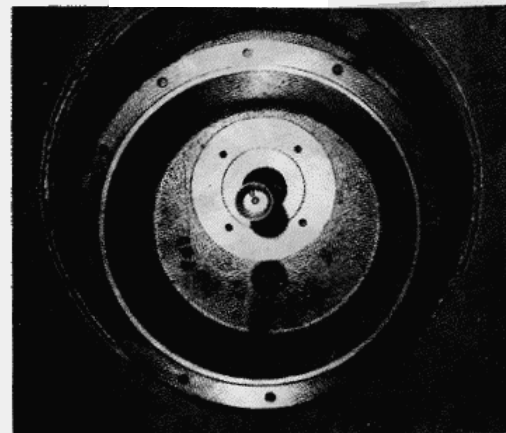

FIGURE 7-92.
c. Align the frame to motor housing capscrew holes and insert the capscrews. Tighten the capscrews in an alternate pattern back and forth across the motor housing. Turn these capscrews only 1/4 to 1/2 turn at a time until the motor housing is piloted into and bottomed against the frame (see figure 7-92).